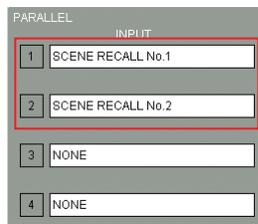

Fig. 12 Setting of the SCENE RECALL
2. Select SCENE RECALL No.1 on the PARALLEL/PROJECTOR CONTROL screen. This selection appears on a drop-down list on INPUT 1. Then select SCENE RECALL No.2 on the PARALLEL/PROJECTOR CONTROL screen. This selection appears on a drop-down list on INPUT 2 (Fig. 12).